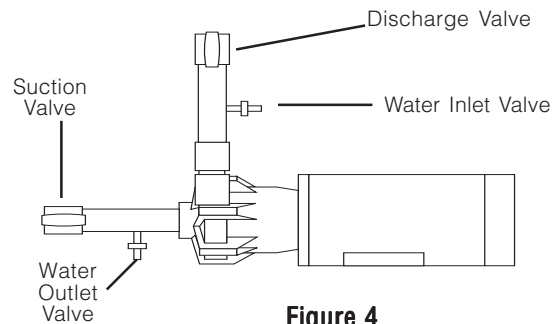

Figure 4
- When pumping liquids that may solidify or crystallize, a flush system should be added to the piping. See Figure 4. Install water inlet and outlet valves as shown.